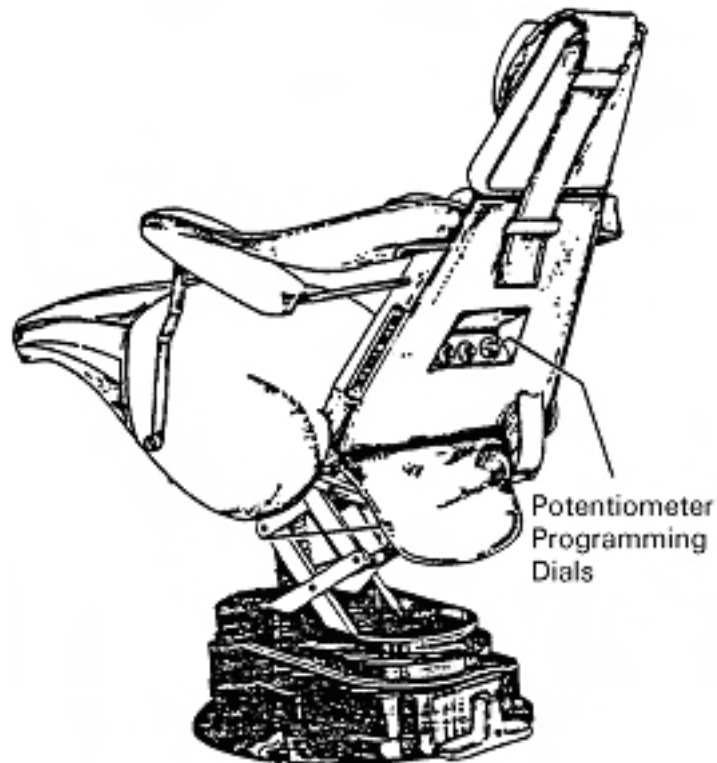

Figure 1-2. Potentiometer programming dials.
b. **Check the Automatic Mode.** Refer to figure 1-2.